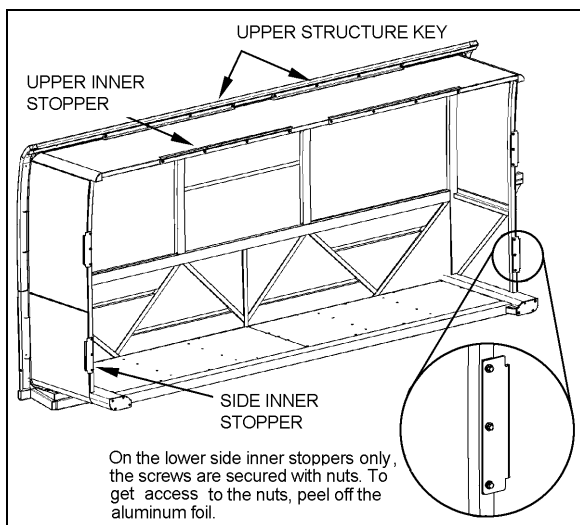
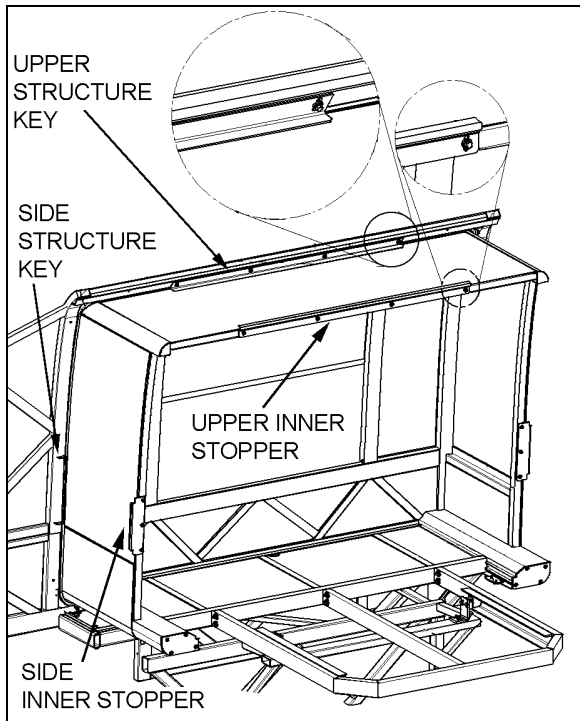

FIGURE 4: FRONT SLIDE-OUT
FIGURE 5: REAR SLIDE-OUT
| FIGURE 4: FRONT SLIDE-OUT | 3 |
| FIGURE 5: REAR SLIDE-OUT | 4 |
The front slide-out is equipped with six inner stoppers laid out in the following way: two stoppers on the top horizontal member of the slide-out, and two stoppers on each vertical upright, while the rear slide-out is equipped with only three stoppers (Figure 4 & Figure 5). The upper inner stoppers are used to provide a support to position perpendicularly the slide-out with the vehicle structure.
The side inner stoppers are used to block the extension of the slide-out. They act as ultimate physical limits but take note that when the "out limit" sensors are properly adjusted, the slide-out extension stops before the side inner stoppers reach the side structure keys (Figure 4 & Figure 5).
2. Adjust the upper structure key and the upper inner stoppers according to FIGURE 4 with the seal deflated. When inflating, the seal presses the roof structure upward and at that moment, the upper inner stopper comes into contact with the upper structure key